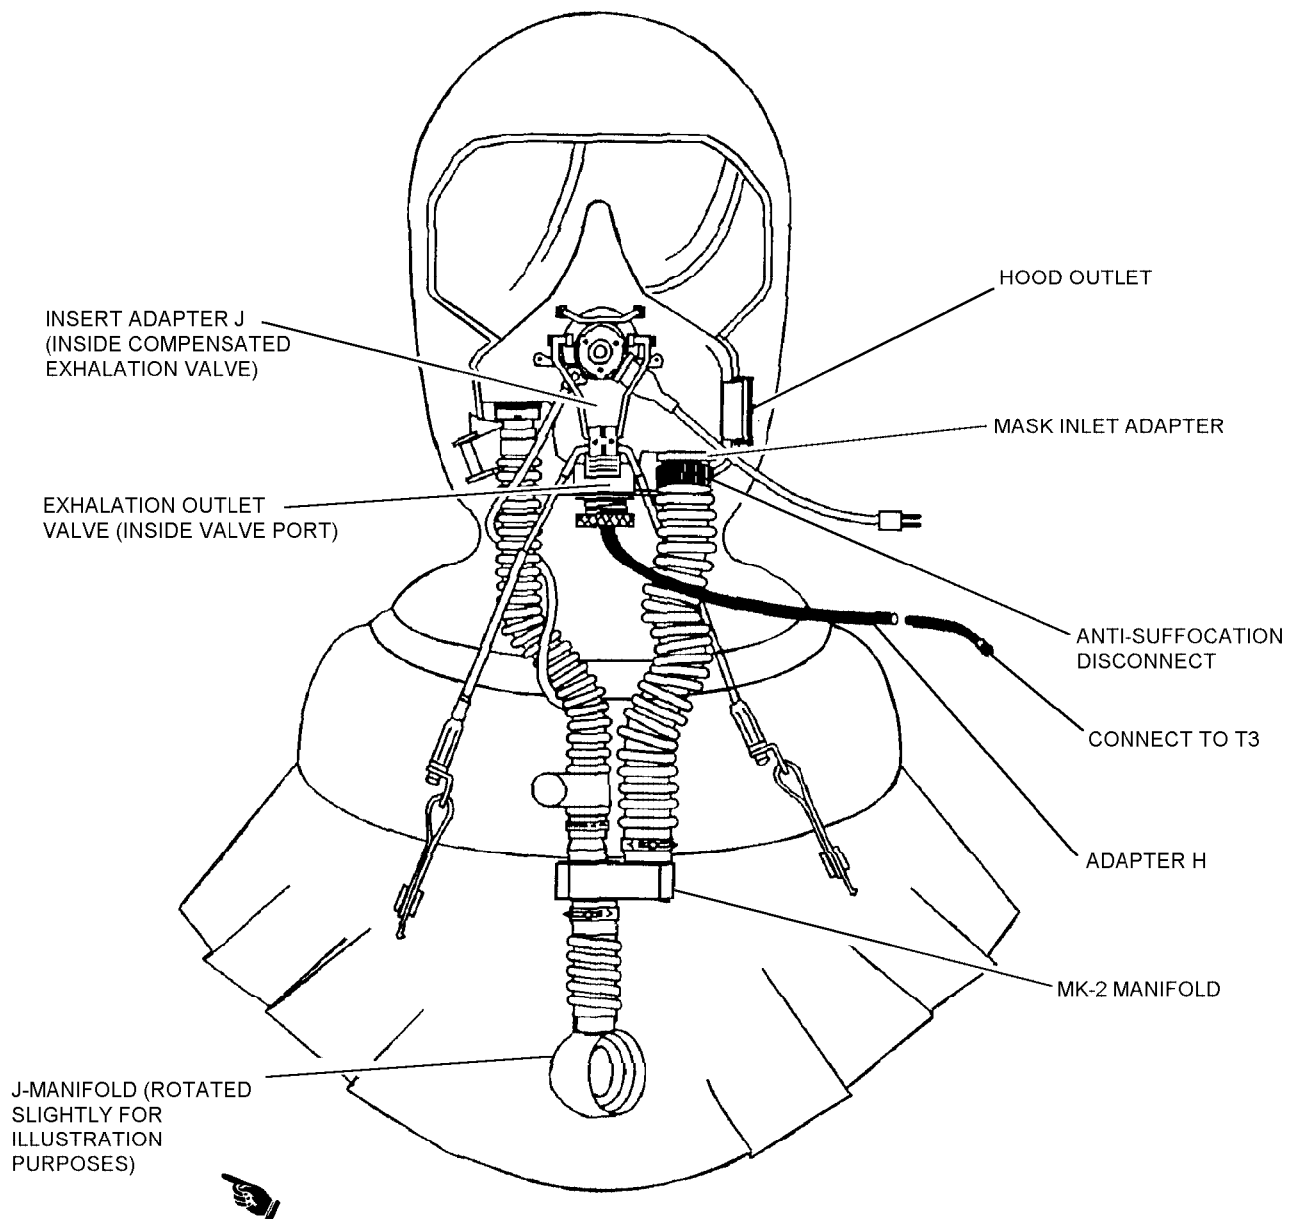

Figure 3-39. Exhalation Outlet Valve - Reverse Leakage Test
4. Slowly push adapter H into the exhalation valve port. Push straight in until O-ring is no longer visible (figure 3-39).